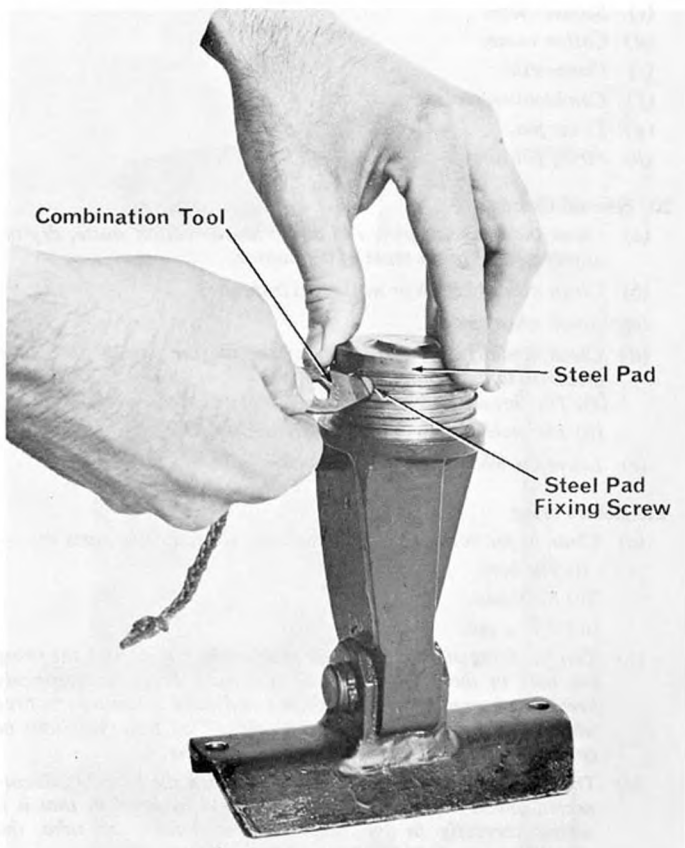

Fig 3.—Slackening the firing hole bush fixing screw
- (c) *Using the combination tool, a screwdriver or a small coin, unscrew the steel pad fixing screw by two turns only (see Fig 3).*